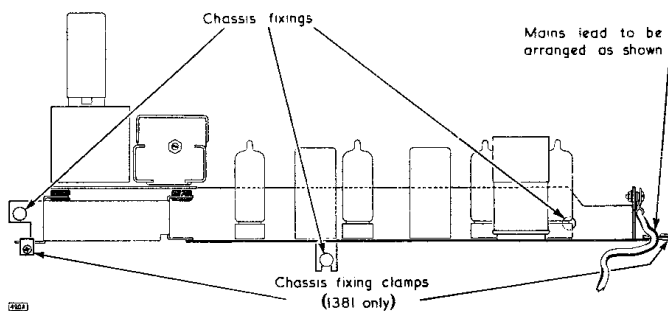

Fig. 4. Chassis Fixing
- (1) Pull off control knobs and remove cabinet back (six self tapping screws).
- (2) Remove aerial/earth panel (two screws), FM aerial and speaker earthing lead to panel (on speaker retaining bolt).
- (3) Release chassis fixings as shown in Fig. 4.
- (4) Remove ferrite aerial bracket (two screws) and tuning indicator valve.
- (5) Unplug three leads to output transformer (note order for refitting).
- (6) The chassis is now free to be removed. When replacing, the mains lead should be arranged as indicated in Fig. 4 to ensure flush fitting of the cabinet back.